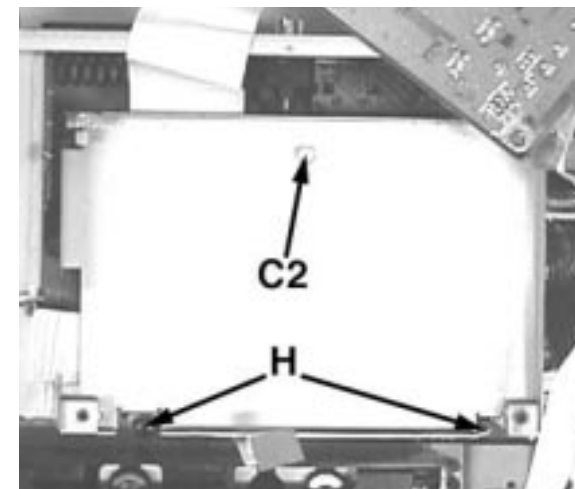

Figure 6
- 4) Loosen 2 screws H and uncatch C2 (see Figure 6) to remove the Shield AV (pos 180).